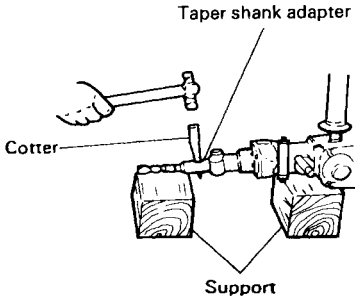

Fig. 11
- (1) Install drill bit with taper shank in the taper shank adapter.
- (2) Turn the power on and drill a base hole to the depth sounded by indicating groove on the drill bit.
- (3) After cleaning out dust with a syringe, attach the plug to the anchor tip and drive in the anchor with a hand hammer.
- (4) To remove the drill bit with taper shank, insert a cotter into the slot of the taper shank adapter, place supports under the rotary hammer and tap the cotter with a hand hammer. (Fig. 11)